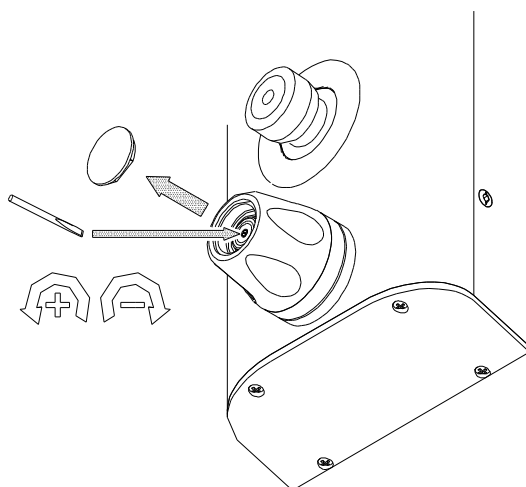

Fig 8
- b) Adjust the temperature using the small slotted screw in the centre of the spindle (see Fig. 8).